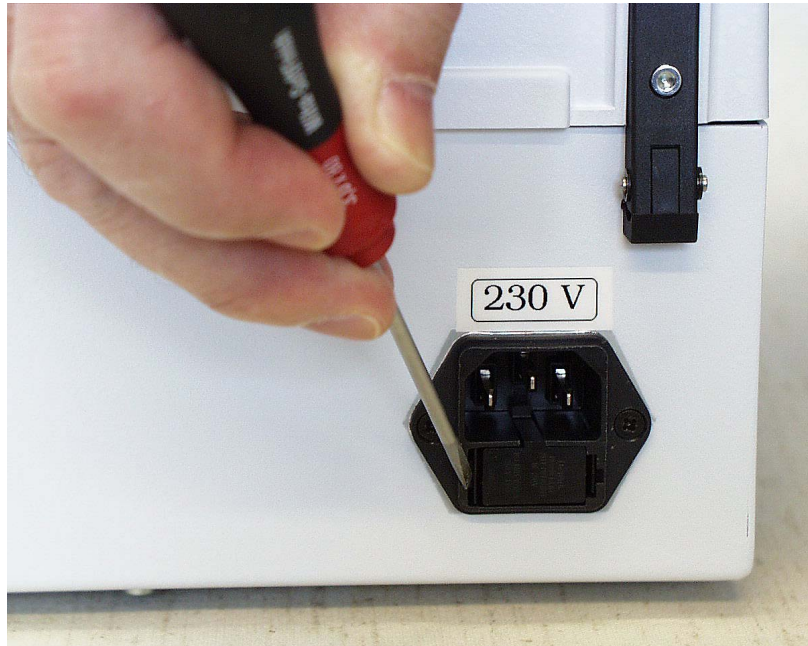
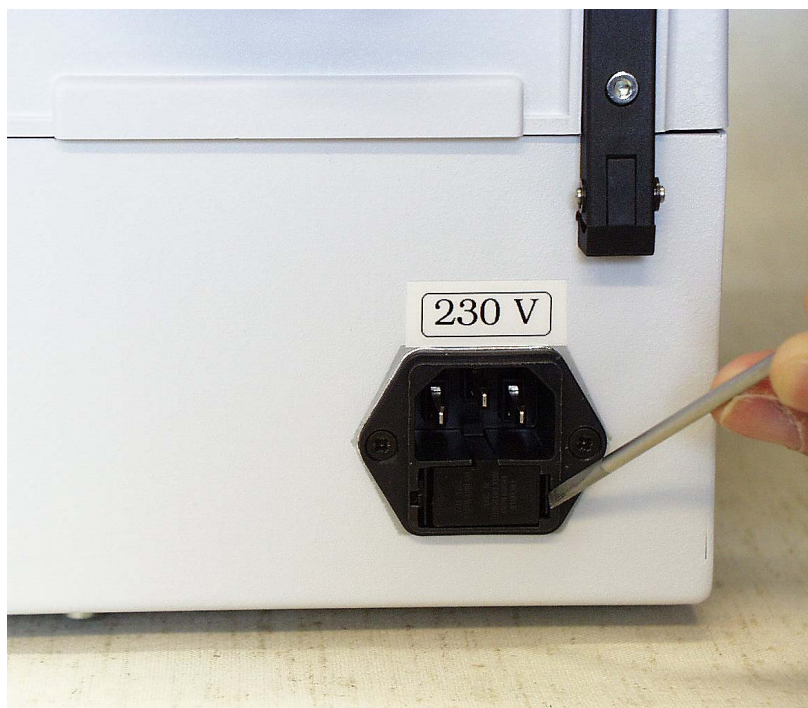

Fig. 7.1 Removing the fuse holder cap (A)
Fig. 7.2 Removing the fuse holder cap (B)
2. Remove the fuse holder cap with a screwdriver or similar tool. Press both ends of the fuse holder cap with the tool (*Fig. 7.1* and *Fig. 7.2*).